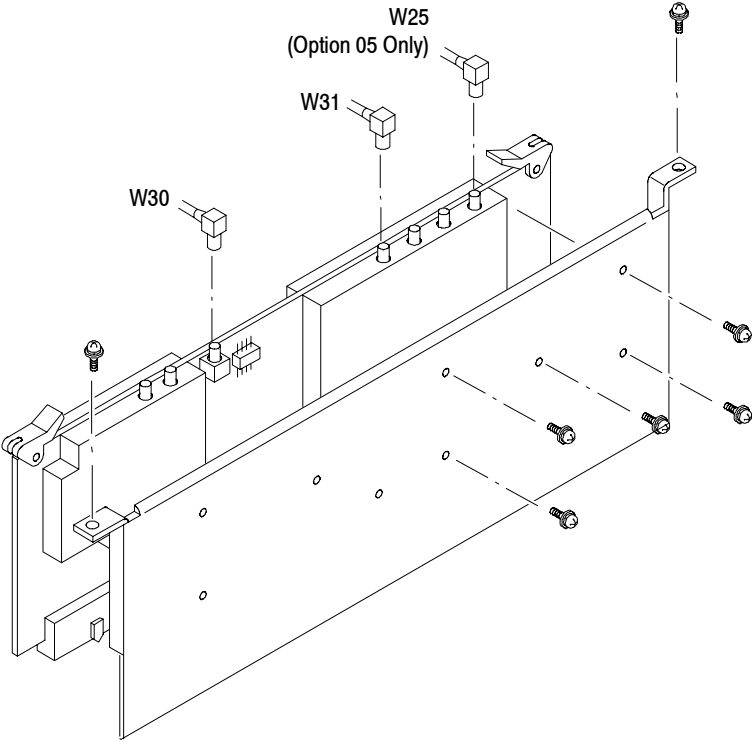

Figure 6-18: A10 A/D board removal
4. *Remove the A10 A/D board:* See Figure 6-18. Also see Figure 6-35 on page 6-73 for the cable interconnection.